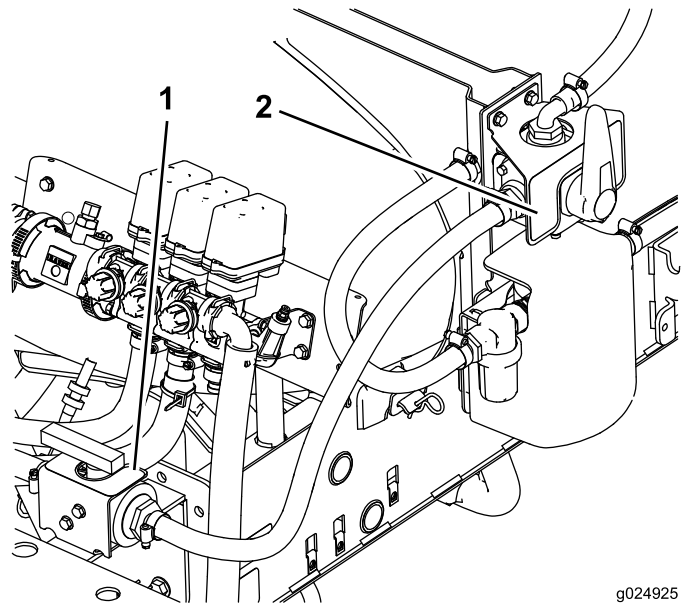

Figure 33
1. Locate and thoroughly clean the area the 2 decals will be placed (Figure 33).
2. Peel the decal from the backing and install the decals to the machine (Figure 33).